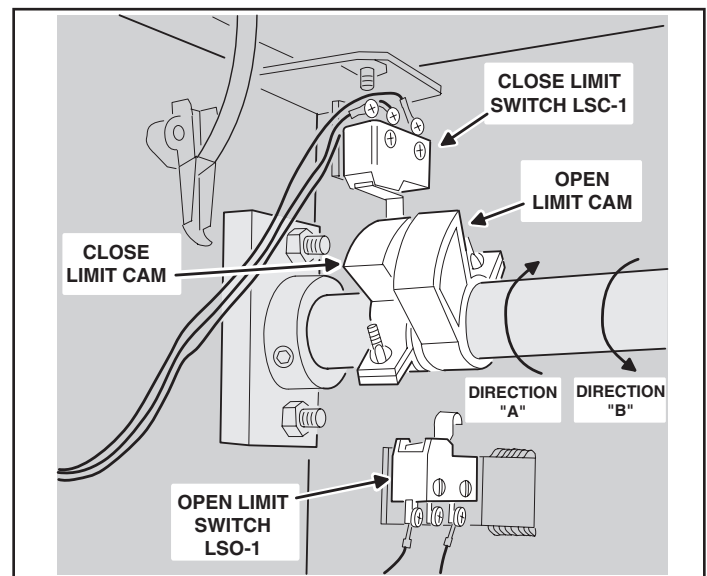

Figure 6. Limit Cam Adjustment
The limit cams for all models of barrier gate operators have been pre-set at the factory for approximately 90 degrees of motion. If you need to adjust this further, see Figure 6 and follow the directions below.
- ✓ **NOTE:** If the barrier gate operator has been custom configured by the factory for reverse arm operation (where the closed barrier arm sticks out from the service door side of the operator) the limit switches shown in Figure 6 will be reversed. The top limit switch will be the open limit, the bottom limit switch will be the close limit.